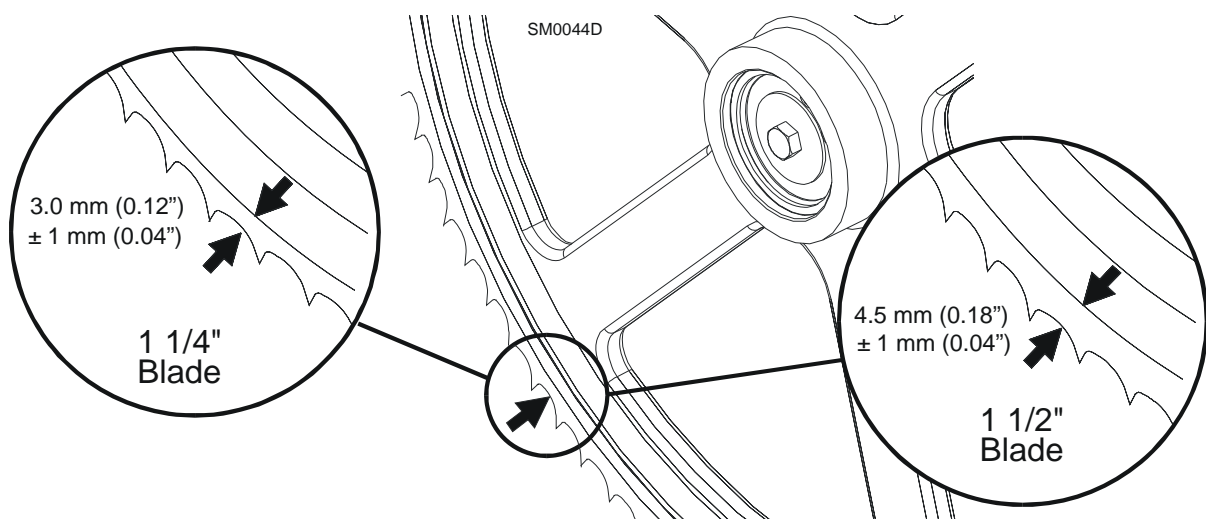

FIG. 3-6
**See Figure 3-6.** Position 1 1/4" wide blades so the gullet is 3.0 mm (0.12") out from the edge of the blade wheel ( $\pm 1.0$  mm [0.04"]). Position 1 1/2" blades so the gullet is 4.5 mm (0.18") out from the edge of the blade wheel ( $\pm 1.0$  mm [0.04"]).